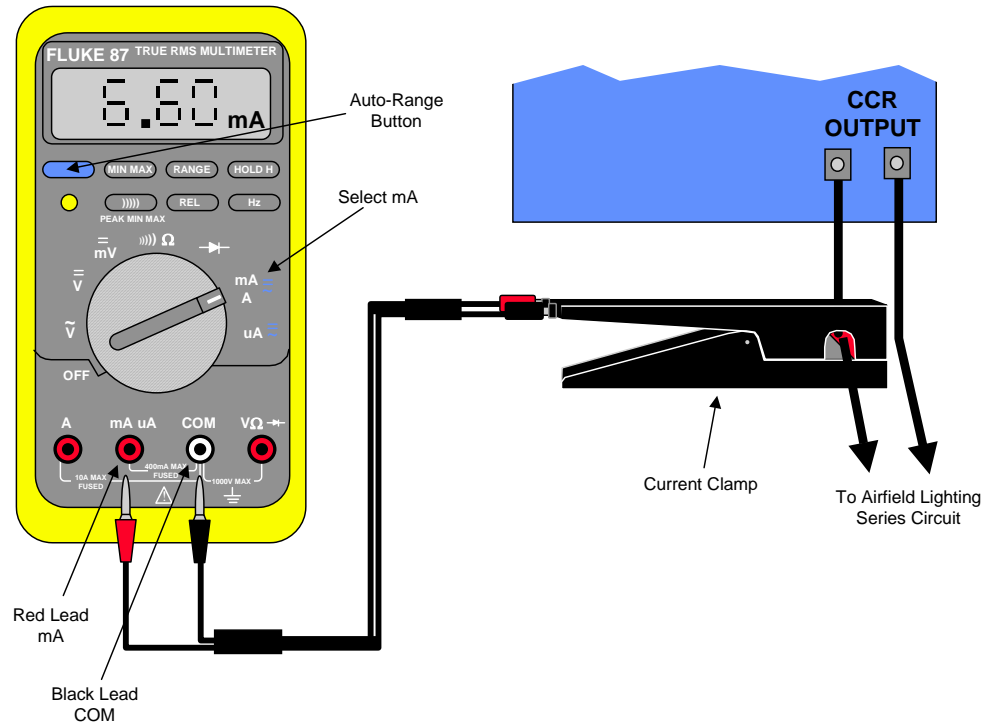

Figure 12: Output Current Clamp
1. Connect a clamp-on true rms-reading instrument (such as a Fluke 87 multimeter with Y8101A current clamp or equivalent) around one of the output current leads. See Figure 12.